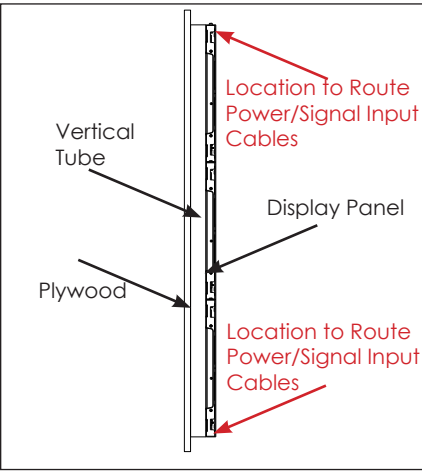
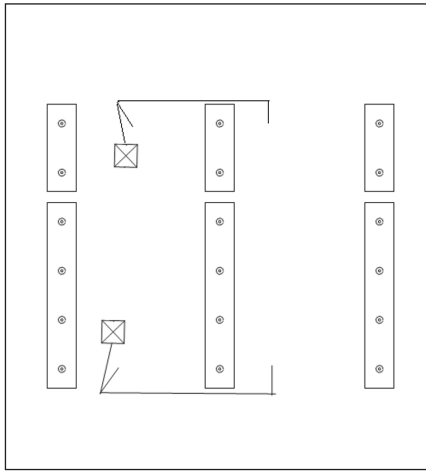

Figure 1: Power & Signal Routing (Left View with Panels)
Figure 2: Power & Signal Routing (Front View without Panels)
2. Route power/signal inputs around the structure prior to panel installation. Use the designed gaps between the substructures and at the top and bottom of the display to run the cables horizontally across the display. Refer to **Figure 1** and **Figure 2**.